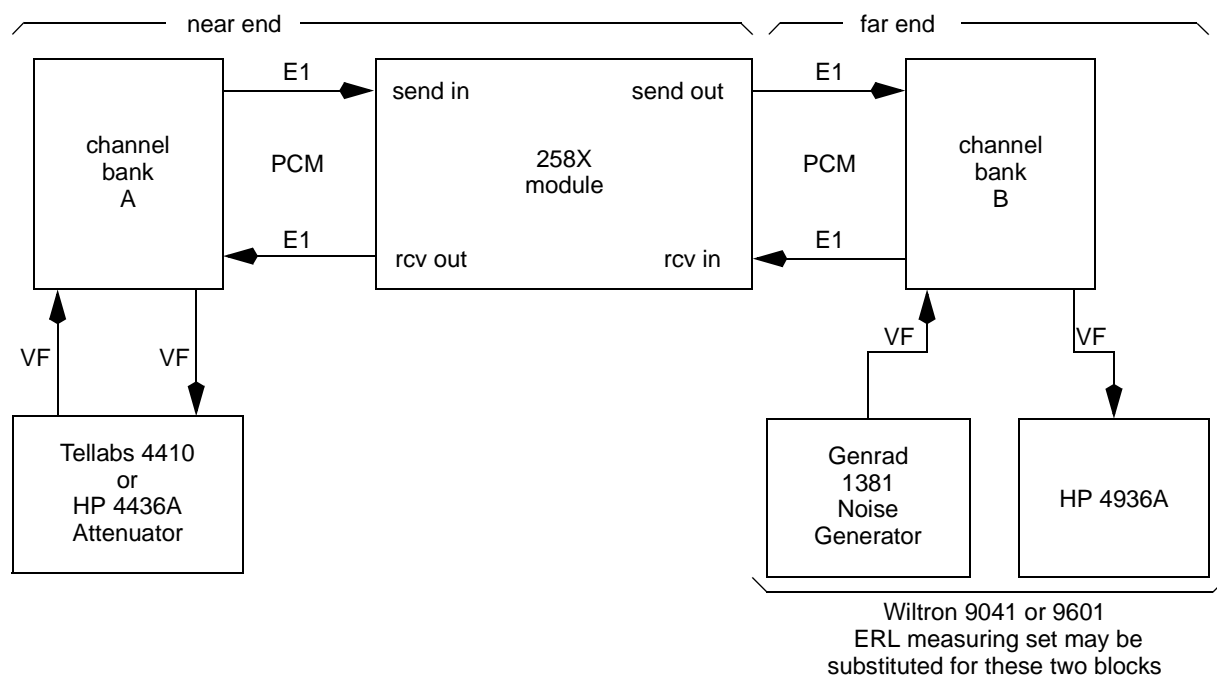

Figure 10-1 Echo cancellation performance test
- 10.5 To ensure that the 258X module has been installed in the network properly, perform the following test. With a module connected as shown in Figure 10-1, 35dB of echo cancellation should be obtained.